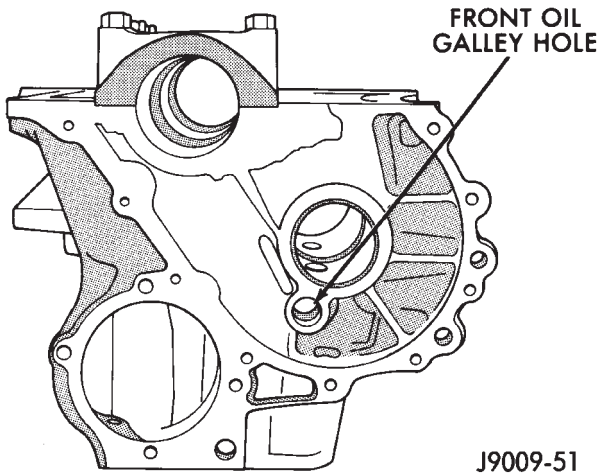

Fig. 10 Front Oil Galley Hole
- The front and rear oil galley holes (Figs. 10 and 11).